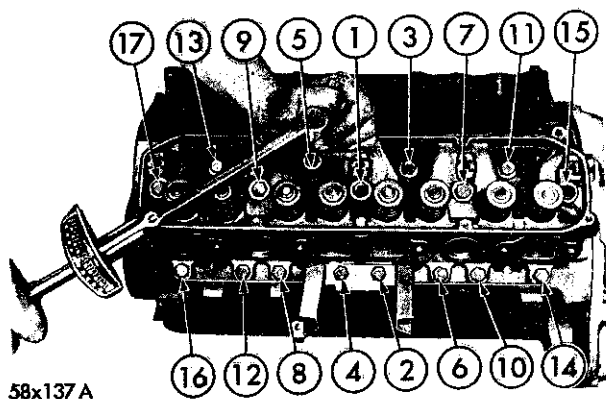

Fig. 6—Cylinder Head Tightening Sequence
- (1) Clean the gasket surfaces of the cylinder block and cylinder head. Remove all burrs from the edges of the cylinder heads.
- (2) Inspect all the surfaces with a straightedge if there is any reason to suspect leakage.
- (3) Coat the new gaskets with a suitable sealer, MoPar Number 1122893. Install the gaskets and cylinder heads.
- (4) Install the cylinder head bolts. Starting at the top center, tighten all cylinder head bolts to 50 foot-pounds torque in sequence, as shown in Figure 6. Repeat the procedure, tightening all head bolts to 70 foot-pounds torque.
- (5) Inspect the push rods and replace any worn or bent rods.